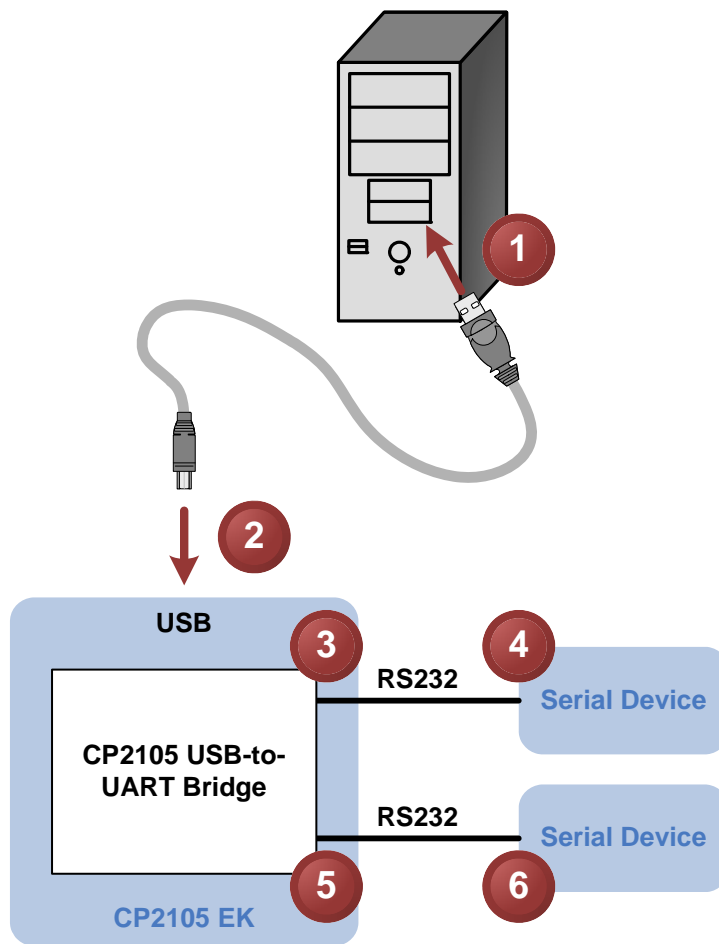
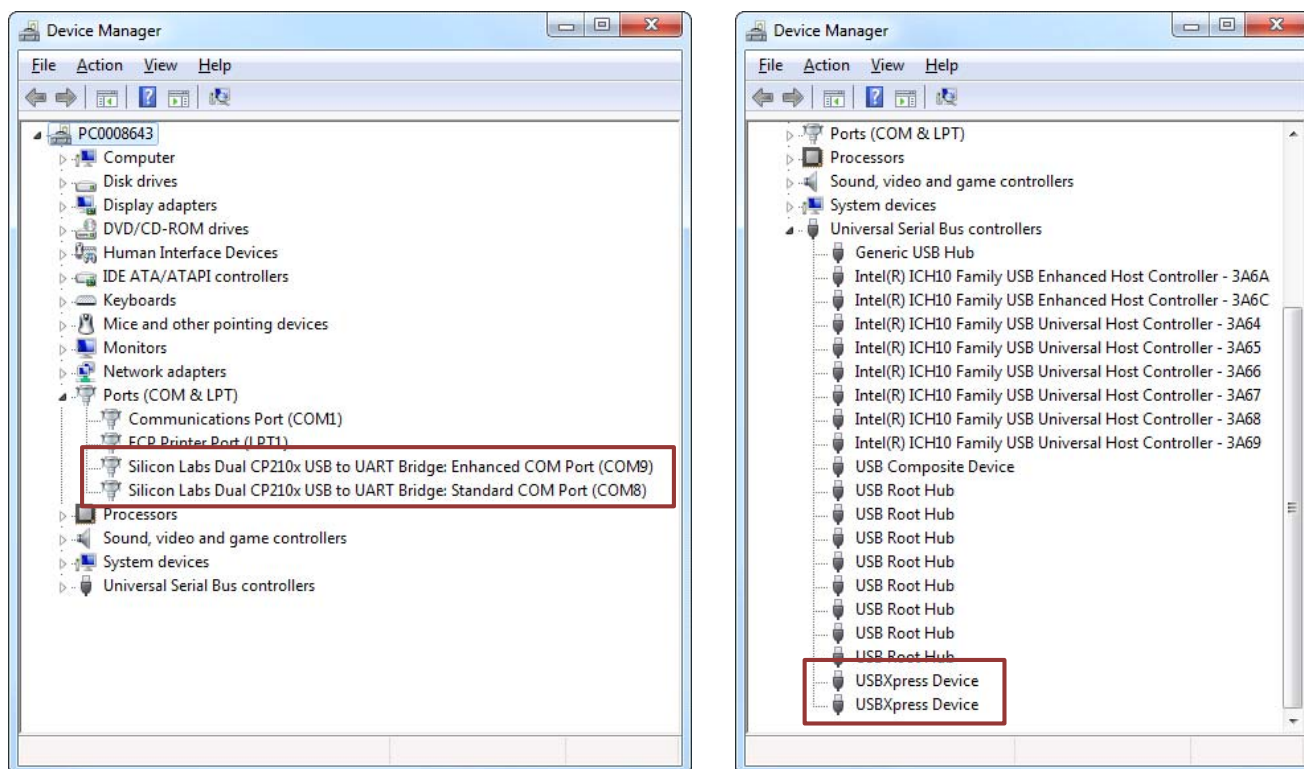

Figure 1. Hardware Setup
Figure 2. CP2105 in Device Manager
The evaluation board is connected to a PC as shown in Figure 1.
If the Virtual COM Port drivers are used, the CP2105 will appear as two COM ports in the Device Manager, as shown in Figure 2. The CP2105 will always use the lowest available COM ports for operation. For instance, if COM ports 1 and 2 are in use by other peripherals and applications, the CP2105 will use COM 3 and COM 4.
If the USBXpress drivers are used, the CP2105 will appear as two USB USBXpress devices as shown in Figure 2. Examples for how to communicate with the device using the USBXpress interface are included in AN169 on the [www.silabs.com/interface-appnotes](http://www.silabs.com/interface-appnotes) page.
- Updated "Figure 2. CP2105 in Device Manager" on page 3.
- Updated Figure 1 and Figure 2.